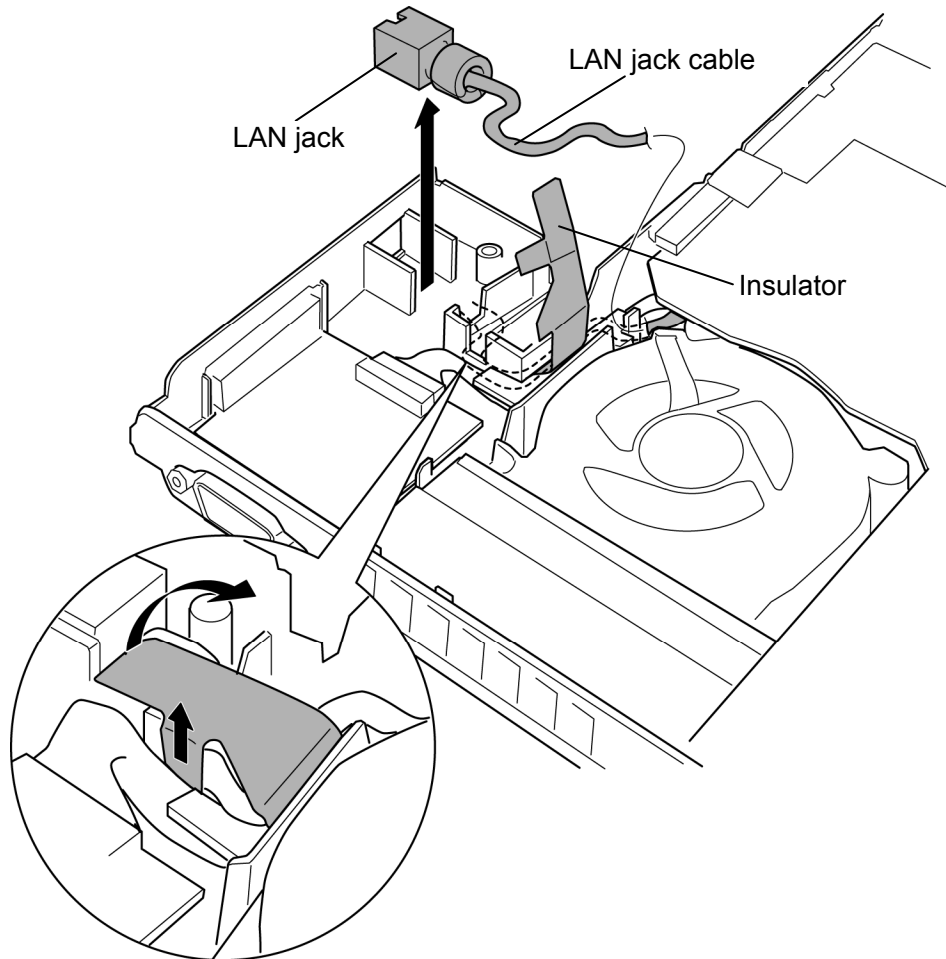

Figure 4-29 Removing the RGB board (1)
To remove the RGB board, follow the steps below and refer to Figure 4-29 and 4-30.
To install the RGB board, follow the steps below and refer to Figure 4-29 and 4-30.
6. Stick the **insulator** over the LAN jack cable, referring to the figure 4-29.